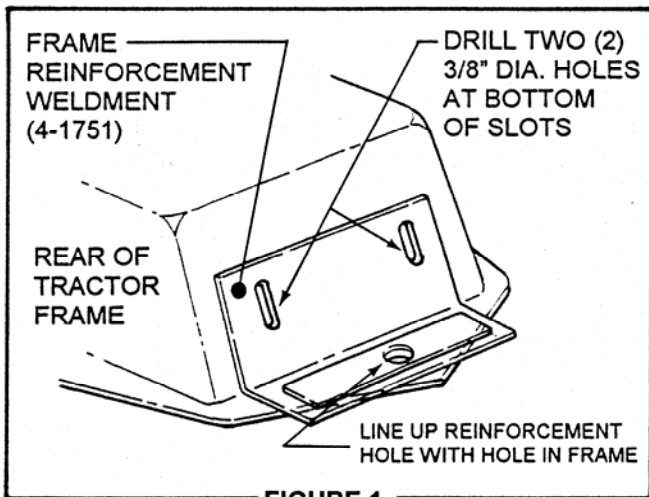
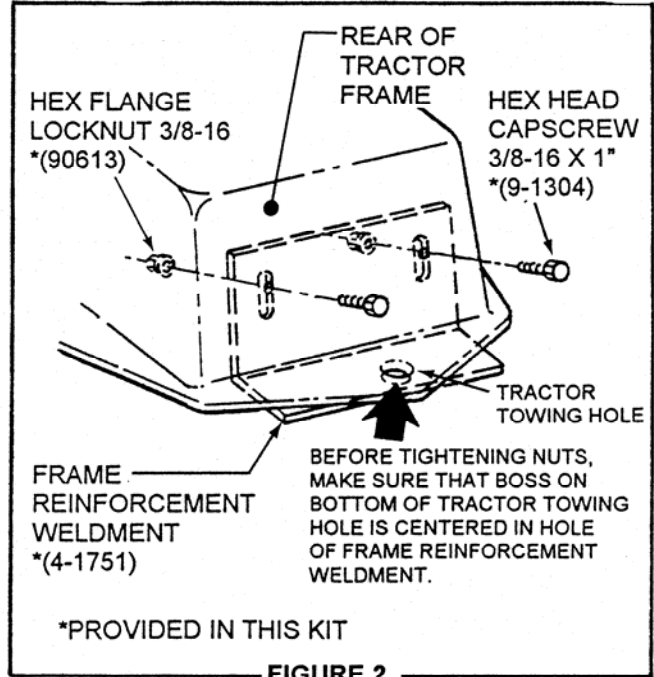

FIGURE 1.
FIGURE 2.
STEP 1: Place the frame reinforcement weldment (use the one provided in this kit) on the back of the tractor frame as shown in Figure 1. Drill a 3/8" hole at the *bottom* of each slot. Then, attach to the inside of the frame using the hardware provided. See Figure 2.